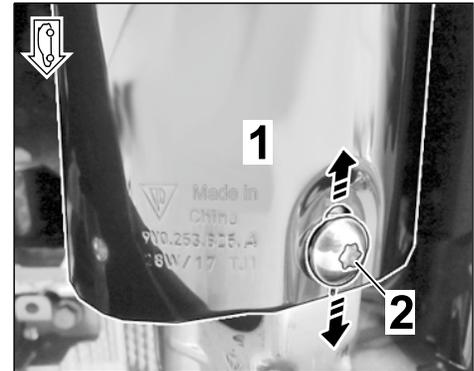

Figure 8
2.3.3 Loosen lens-head screw, M6 x 12 (underside of sport tailpipe cover), check projection of sport tailpipe cover/exhaust system cover (on rear apron) and make adjustments if necessary (⇒ *Figure 8 -Arrows-*).